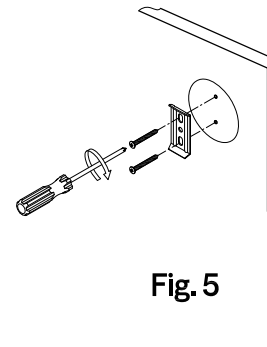

Fig. 5
Step 4. Screw the mounting plate(with the lips facing out) to the wall with the mounting screws (fig 5). Ensure the curved end of the mounting plate is at bottom and the flat end on top before screwing on.